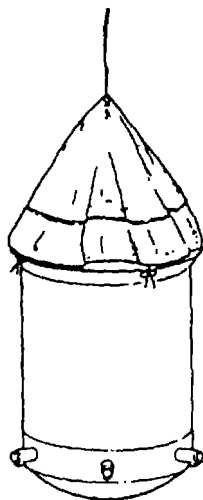

Figure 1-7. Drinking Water Storage Bag
- (10) DRINKING WATER STORAGE BAG (Figure 1-7). 36gallon capacity, cotton duck Hanging bag with faucets at bottom of bag distribute water to personnel.